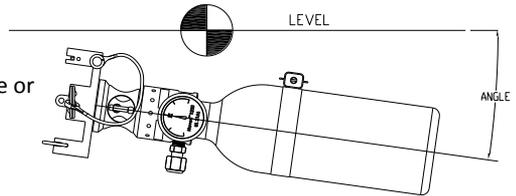

Figure 2
Models NFG 25 - 200 and NFD 225 – NFD 825 may be installed Vertical or horizontal with the following angular / off-set limitations. Vertical installation is recommended for optimum performance. Off-set is defined as the distance below level line from end of the bracket. The discharge orifice spray pattern must be oriented away from the wall and towards the room. See Figure 2.
WARNING: WHEN INSTALLING CYLINDER IN HORIZONTAL POSITION, THE ACTUATOR (TOP OF CYLINDER) MUST NEVER BE LOWER THAN THE BOTTOM OF THE CYLINDER OR PROPER DISCHARGE OF AGENT WILL NOT OCCUR (SEE FIGURE 2 ABOVE).
Step 5 Locate bracket in desired position (Vertical-sensor Valve / Detector Head Up, or Horizontal, Figure 2). Ensure bulkhead or mounting surface is solid enough to hold the weight of the unit. Fasteners are not included. Use medium strength (Grade 5, Property Class 8.8) or better grade material. Use minimum 5/16" (M8) diameter [recommend 3/8" (M10) diameter] fasteners for all but 130-249 bracket assemblies. 130-249 minimum hardware size is 1/4" (M6) diameter. All mounting holes must be utilized. See table below for qty and hole size in respective bracket. Using the bracket as a template, mark and drill holes in bulkhead and install bracket ensuring that all fasteners are thoroughly tight.